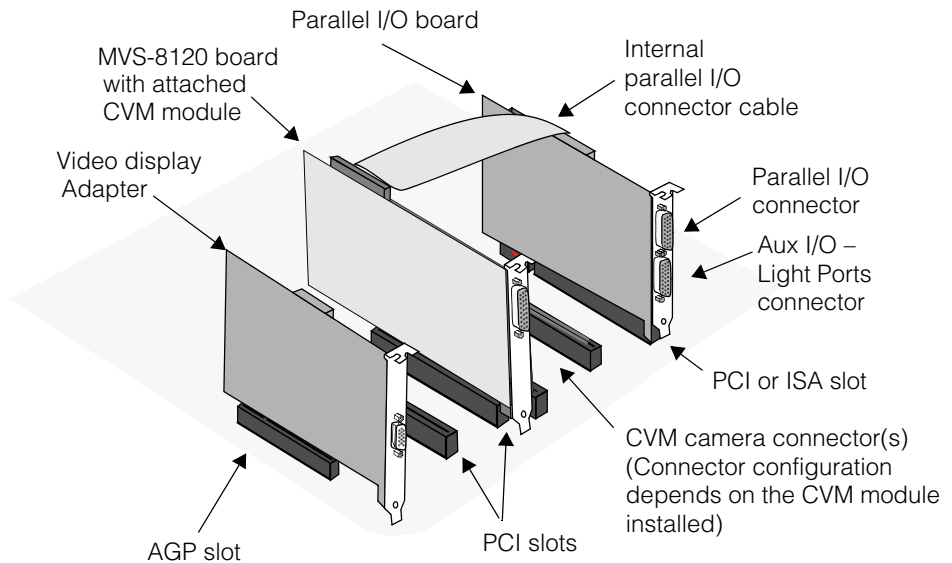
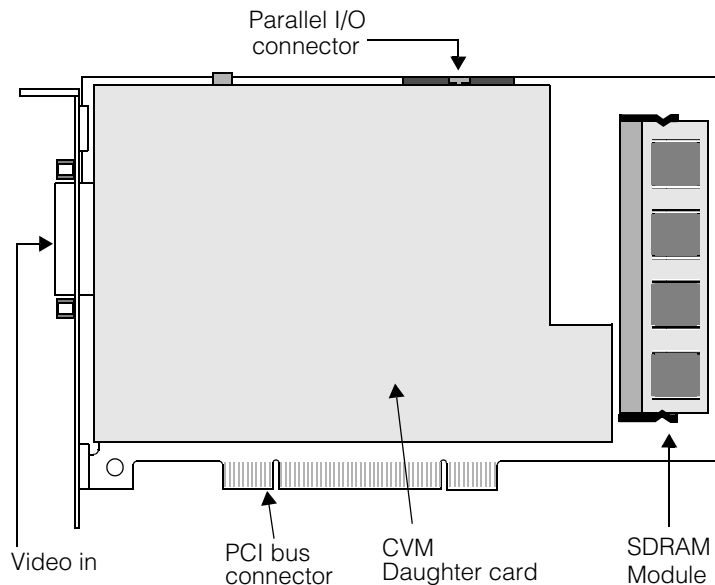

Figure 1. MVS-8120 system typical component placement
Figure 2. *MVS-8120 components and connectors*
Figure 1 shows the placement of components for a typical MVS-8120 frame grabber system.
The MVS-8120 frame grabber installs into a PCI bus slot of the host computer. Figure 1 on page 16 shows its location in a typical system. Figure 2 shows the components and connectors of the MVS-8120.
- Attach one end of the ribbon cable to the MVS-8120's 40-pin connector at position J2. The location of the parallel I/O connector on the the MVS-8120 is shown in Figure 2 on page 17.
4. Attach one end of the ribbon cable to the MVS-8120's 40-pin connector at position J2. The location of the parallel I/O connector on the MVS-8120 is shown in Figure 2 on page 17.